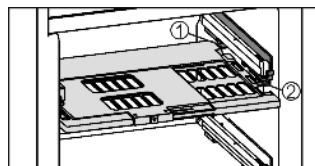

Fig. 21
- ▶ To insert the humidity control plate: Insert the cover mouldings of the plate into the rear holder *Fig. 21 (1)* from underneath and engage them in the holder *Fig. 21 (2)* at the front.